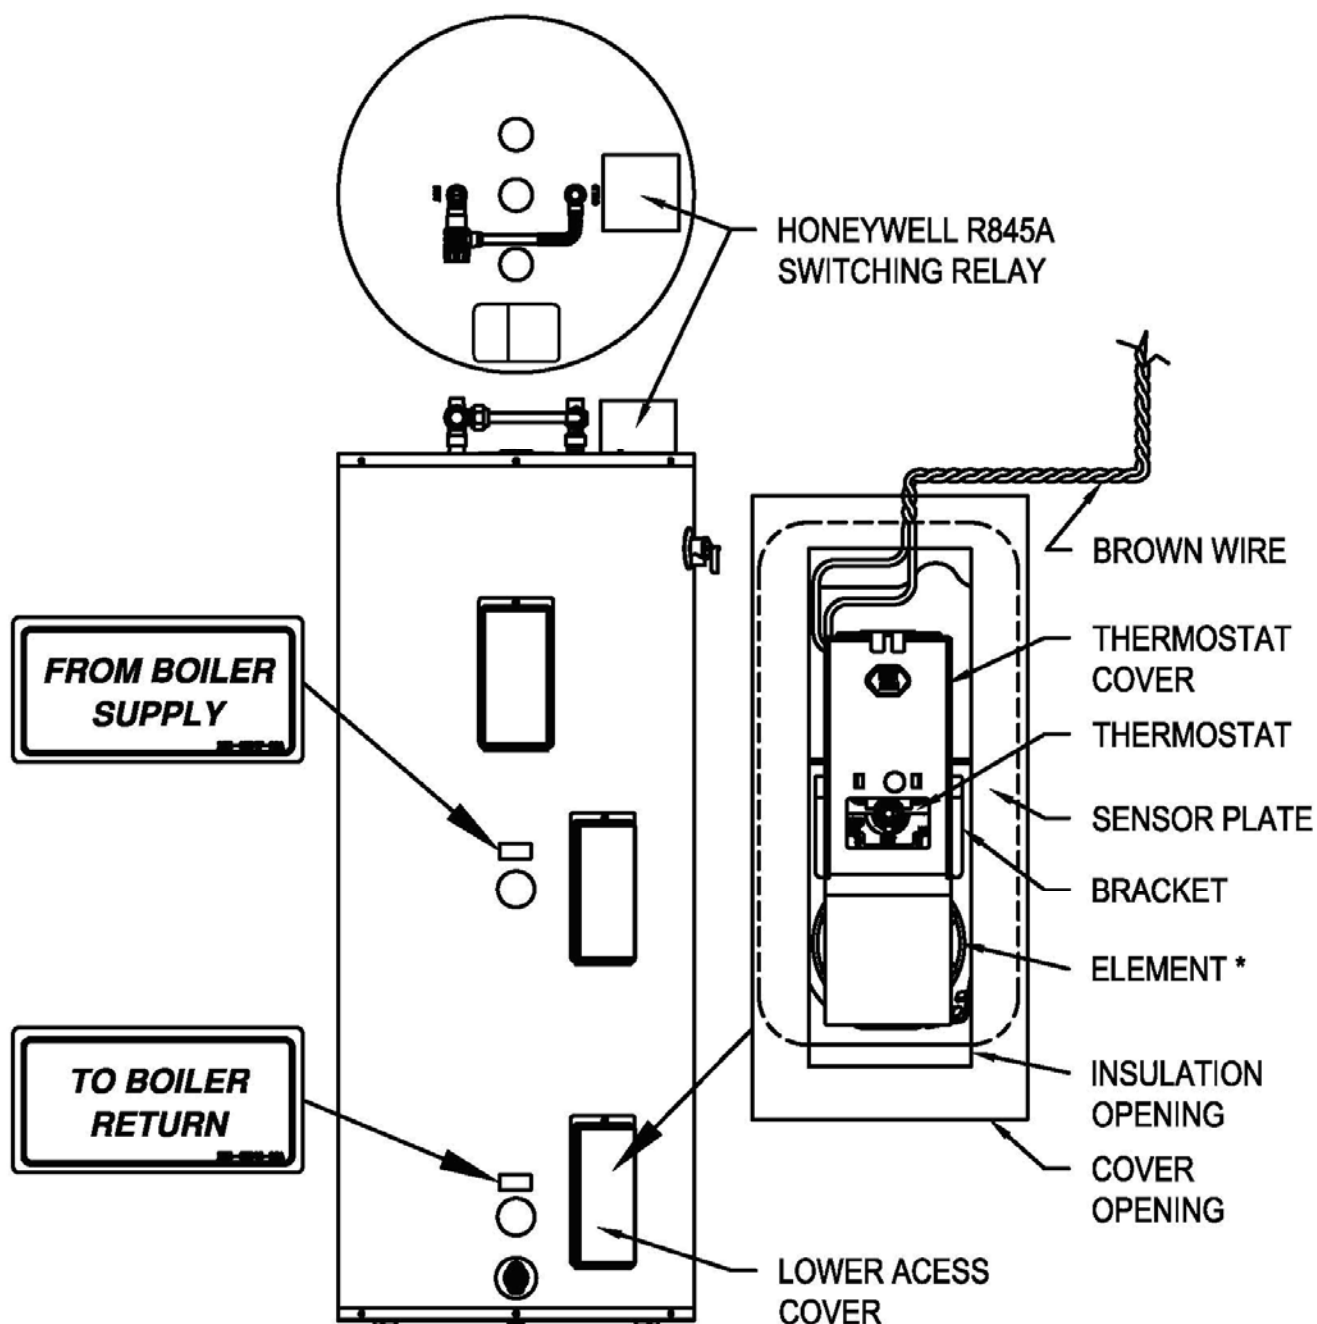

Figure 2 – Water Heater Illustration and Label Placement Diagram
4. Remove the backing to the supplied labels and cover the existing labels as shown in Figure 2.